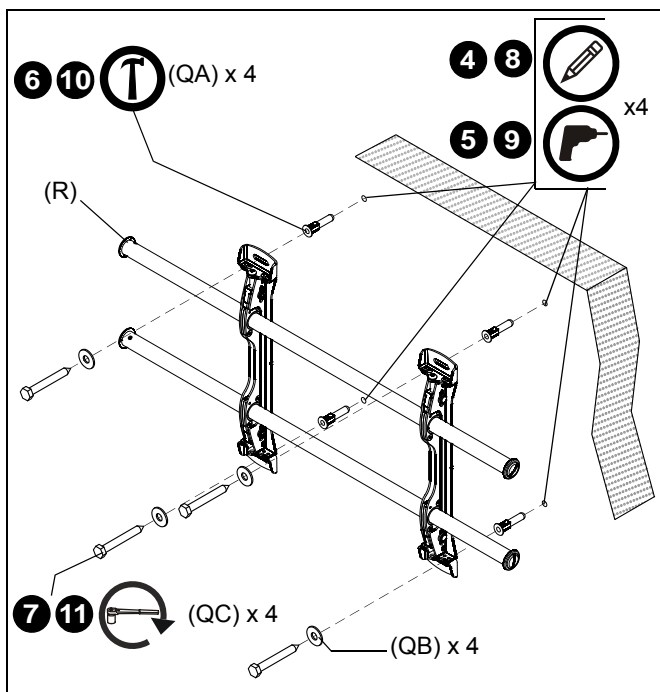

Figure 3
4. Using a level, mark the wall through both upper mounting slots. (See Figure 3)
6. Install an anchor (QA) into each pilot hole using a hammer, making sure that the anchor is flush with the wall.
7. Use two 5/16 x 2-1/2" lag bolts (QC) and two 5/16" flat washers (QB) to attach top of mount (R) to anchors in wall.
8. Mark the attachment points for the lower mounting slots. (See Figure 3)
9. Drill one pilot hole at each marking for lower mounting holes. (See Figure 3)
10. Install an anchor (QA) into each pilot hole using a hammer.
11. Use two 5/16 x 2-1/2" lag bolts (QC) and two 5/16" flat washers (QB) to attach the mount to the wall through the lower mounting holes. (See Figure 3)